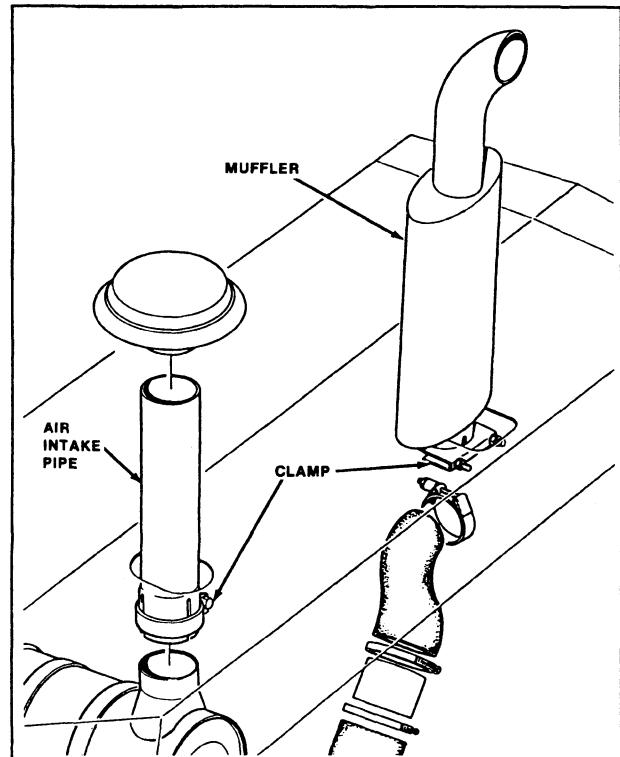

FIGURE 2-3: Muffler and Air Intake Cap Removal
4. Remove muffler and air intake cap on air cleaner (Figure 2-3).
17. Install air intake cap and the muffler, taking care to remove previously installed caps (Figure 2-3).